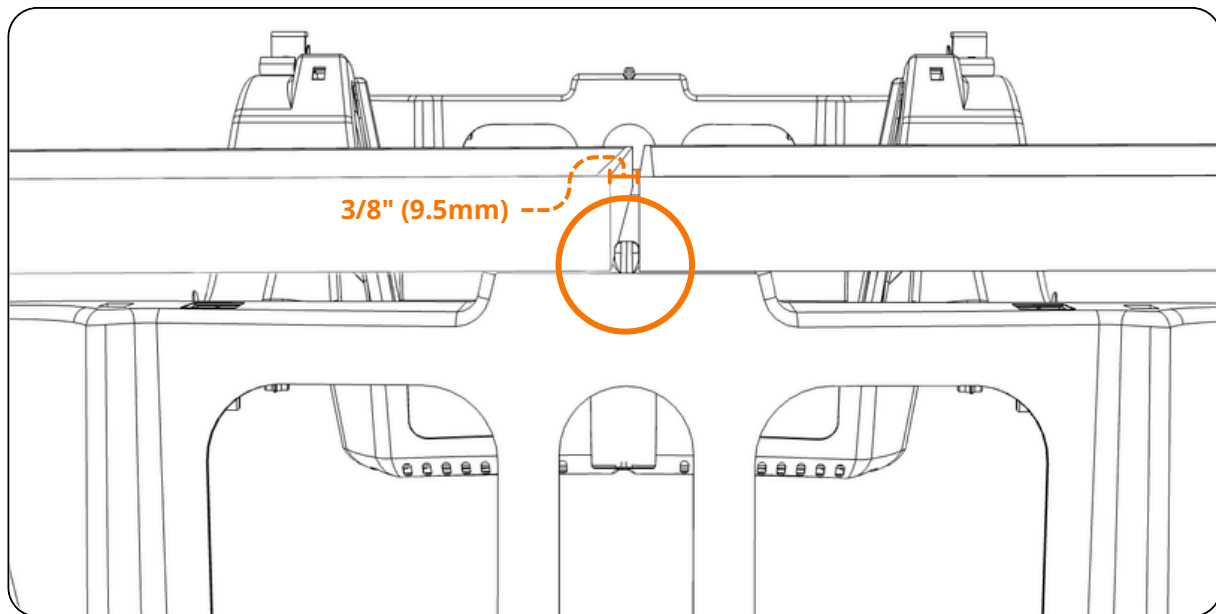

Fig. 11 Center Spacer
4. Torque the connection nut to **20–25 ft-lbs (≈ 27–33 N·m)**. The mechanical anchor is installed between two adjoining FR510-6 units. See Fig.11 below.